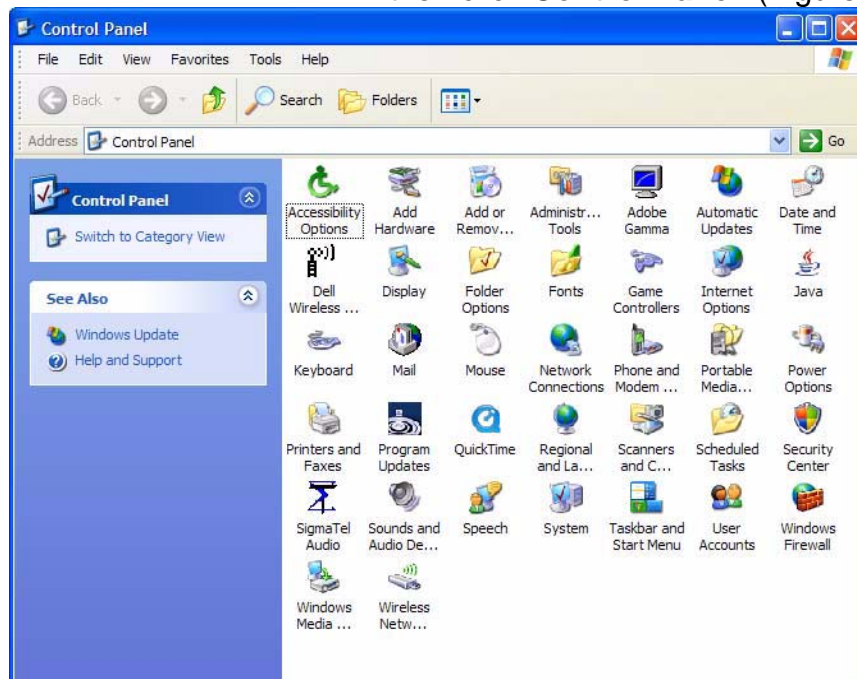

Figure 6-6 Control Panel
1. From the **Start** menu, point to **Settings** and then click **Control Panel**. (Figure 6-6).